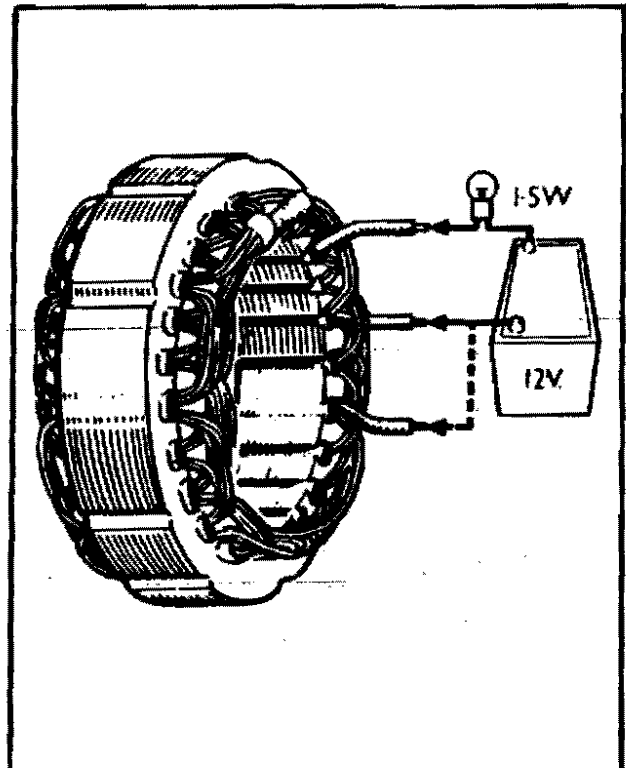

Fig. 26 – Stator Winding
1. Unsolder the three stator cables from the heat sink assembly, taking care not to overheat the diodes—(refer to "Heat Sink Replacement"). Check the continuity of the stator windings by first connecting any two of the three stator cables in series with a test lamp of not less than 36 watts and a 12-volt battery as shown in Fig. 26. Repeat the test, replacing one of the two cables by the third cable. Failure of the test lamp to light on either occasion means that part of the stator winding is open circuit and a replacement stator must be fitted.